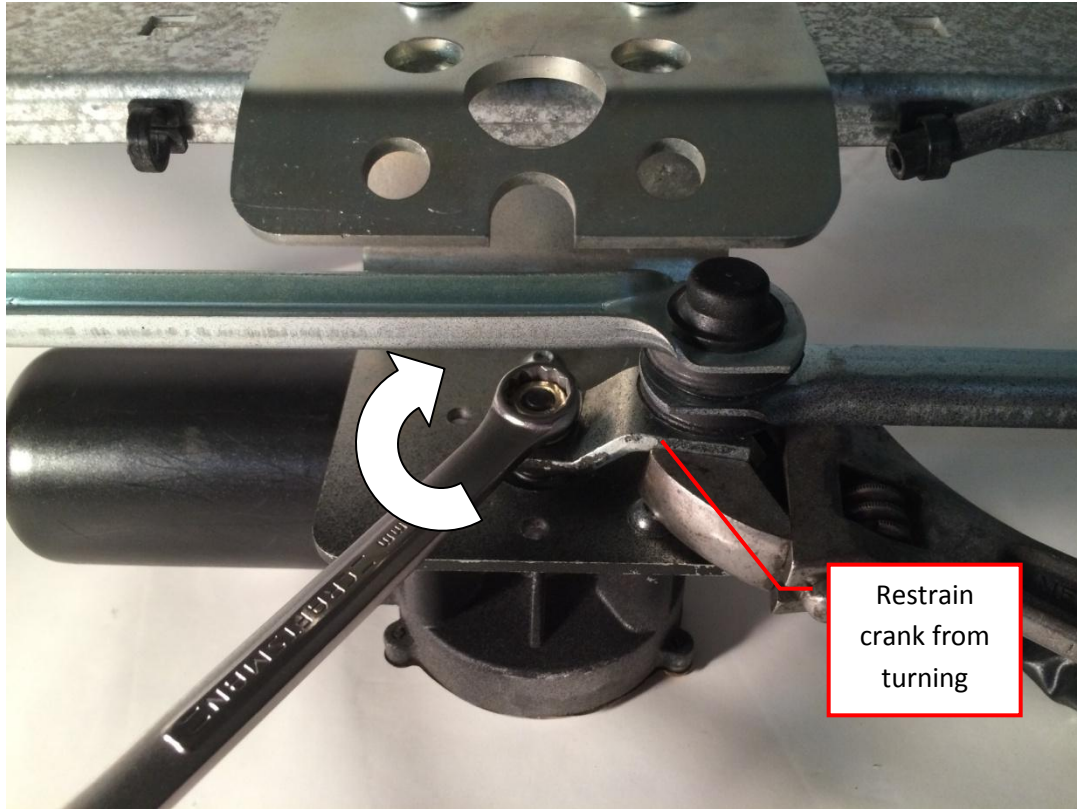

Fig. 3 Crank pointing horizontal and restrained while nut is tightened
21. Restrain the crank arm from turning with the 1" open end or adjustable wrench. Use the 13 mm box wrench to tighten the crank nut as much as possible by hand (fig. 3). It will be torqued properly next.